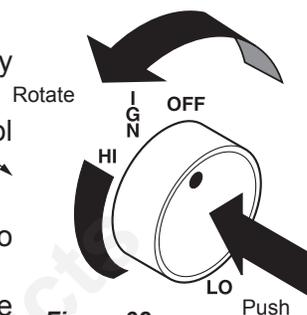

Figure 32 -
- From OFF position, push in gas control knob slightly and turn counterclockwise to the IGN position. Figure 32. Push in and hold control knob for 5 seconds.